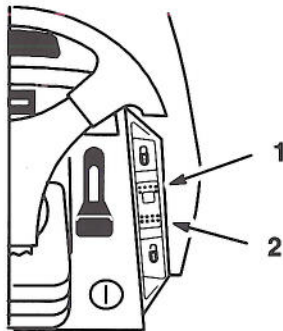

Figure 13
The cruise control is optional on some models. A 3 position: Set-Lock (spring loaded), On and Off-Unlock dash switch (Fig. 13) controls the engagement. Cruise control maintains the traction control position without foot pressure. Cruise control is intended for operation in the forward direction only. Do not use cruise control in reverse.
1. Begin driving tractor: Refer to Driving Forward or Backward, Page 15. While holding your foot steady on the traction control, push the cruise control switch (Fig. 13) to the "SET"–"LOCK" position.
1. While holding your foot steady on the traction control, move the cruise control switch (Fig. 13) to the "UNLOCK"–"OFF" position.